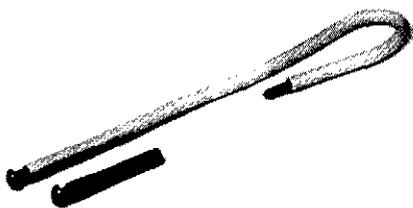

Fig 30—Samples of W1HHF's nut-from-insulation technique.
□ I recently required the use of an old milliammeter, which had the mounting screws permanently embedded in the case flange. The nuts for the no. 2 mounting screws were missing, and there were no replacements in any of my accumulated hardware. By using the plastic sleeve that insulates hook-up wire as a replacement nut, I quickly secured the meter on the new panel (see Fig 30).